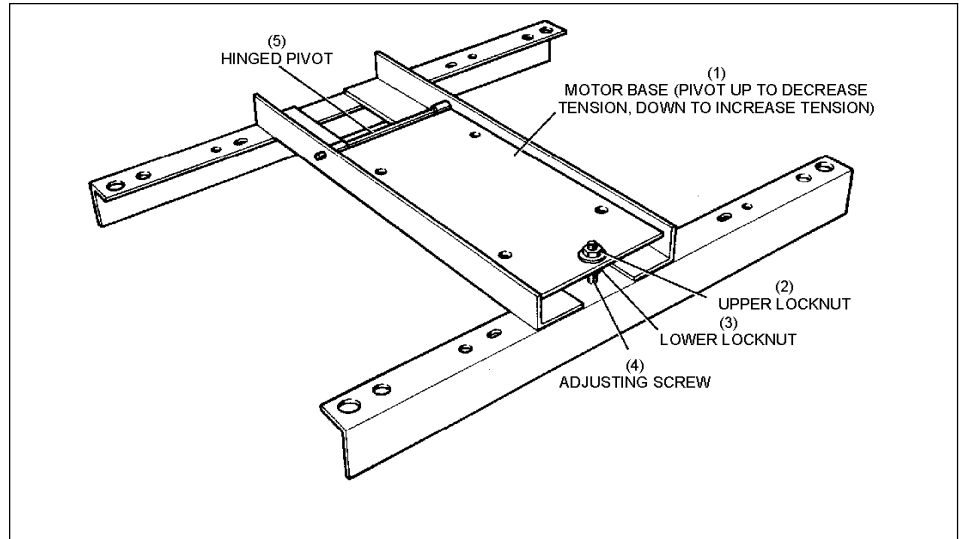

Figure 14. Adjust Belt Tension.
1. To increase or decrease the belt tension on the flat belt on the left side of the machine, adjust the motor mount plate up or down with the jam nuts on the adjusting rod at the lower back of the machine. Refer to *Figure 14*.